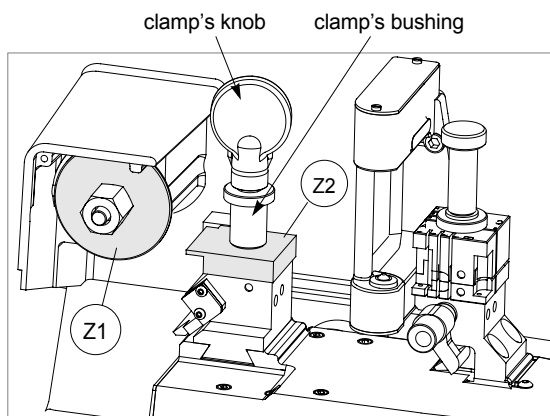

Fig. 63
- 5) install the (Z2) template, clamp's bushing and secure them with the clamp's knob (fig. 63).
- 6) remove the cutter from the machine (Ch.4.6, page 16) and install the (Z1) template (fig. 63).
- 7) manually move the X and Y axes up until the templates make contact (fig. 63 - top view).